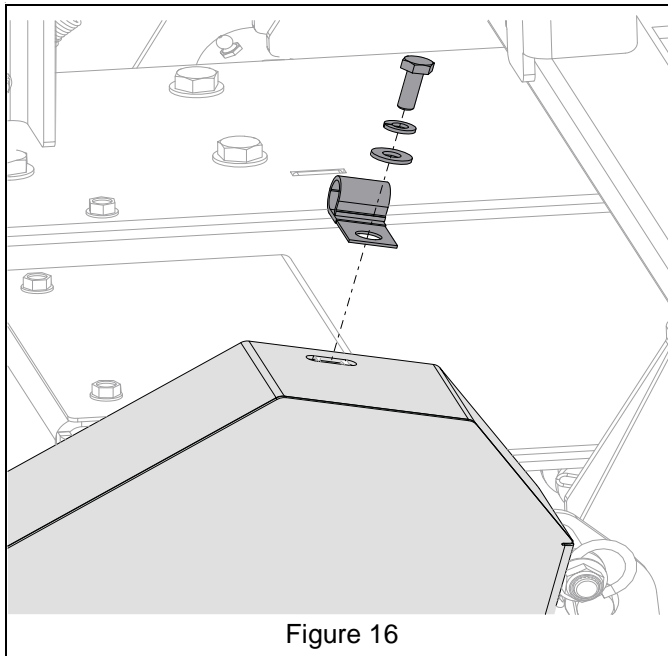

Figure 16
8. Route cable through p-clip and secure p-clip to belt shield with hardware removed earlier. See Figure 16.